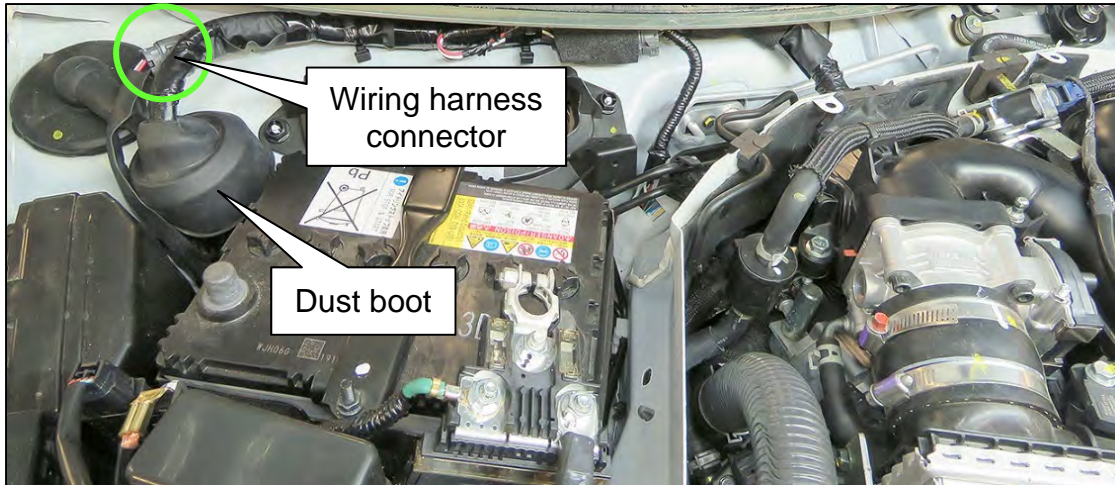

Figure 1
8. Disconnect the wiring harness connector shown in Figure 1.
9. Roll up the wiring harness dust boot (Figure 1).